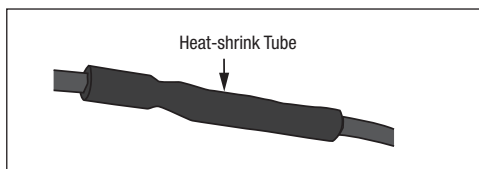

Figure 11. Proper Heat-shrink Tube Application
9. Continue heating the heat-shrink tube towards the ends but be CAREFUL not to heat the cables directly as they can be DAMAGED. See *Figure 11*.